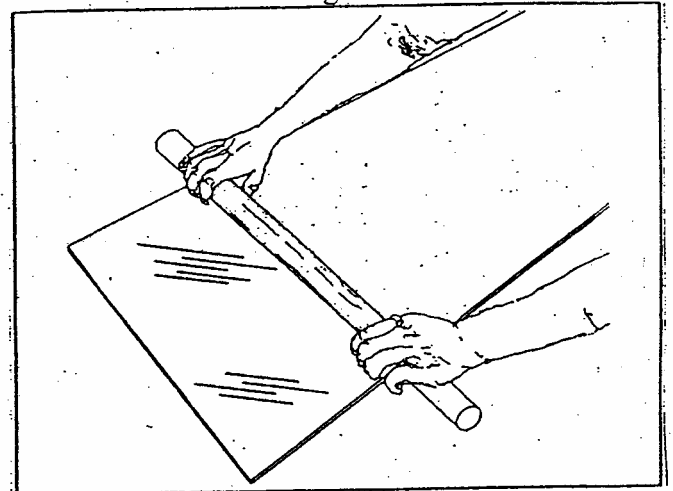

Figure 7
2. Spray or roll the adhesive on the substrate facing and back of the Imagicor panels. Remember, the adhesive must be completely dry before laminating the decorative acrylic panel to the substrate. NOTE: Water based adhesive has a high solid content compared to solvent based adhesive. A very light coat of water based adhesive is sufficient. See Figure 7 & 8.